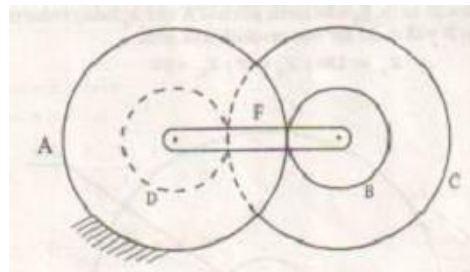

Fig. 4.5
5. An Epicyclic gear train is constructed as shown in fig 4.5. A fixed annular wheel A & a smaller concentric wheel B are connected by a compound wheel A₁-B₁. A₁ gearing with A. B₁ gearing with B. The compound wheel revolves on a stud which is carried around an arm which revolves about the axis A & B. A has 130 teeth, B₁=80 teeth, pitch of A & A₁ being twice that of pitch of B & B₁. How many revolutions B will make for one revolution of the arm. (solve it by algebraic method)